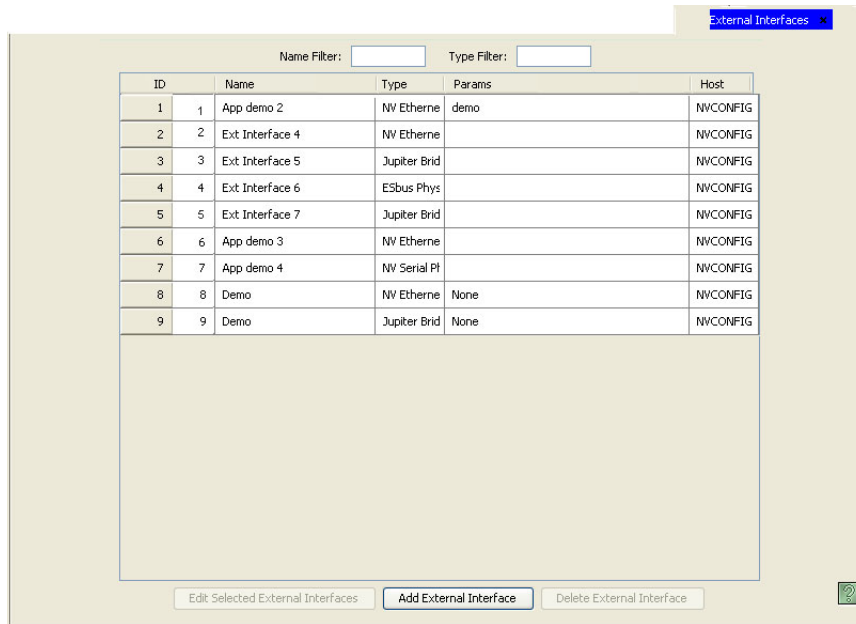

Figure 14-14. External Interfaces Page
- 2 From the Navigation area, select the 'Configuration' pane and then 'External Interfaces'. The 'External Interfaces' page displays, as shown in Figure 14-14.